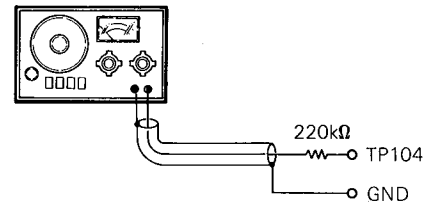
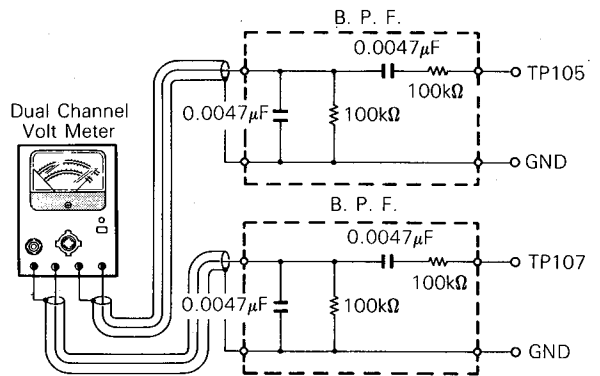

Fig. 19
Fig. 20
- (1) Connect an audio frequency oscillator with 220k ohm resistor in series to TP104 and GND. (Fig. 19)
- (2) Set the audio frequency oscillator output to 800Hz, 1.0V RMS.
- (3) Connect AC volt meter to B.P.F. (Fig. 20)
- (4) Connect B.P.F. to test point TP105 and GND and then to TP107 and GND. Measure the output level at each point. (Fig. 20)
- (5) Insert the Philips test disc #5 and place the unit in the play mode on track number 8.
- (6) Adjust VR104 so that the voltage differential between TP107 and TP105 becomes 29dB ± 3dB. (FOC - FOG = 29dB)